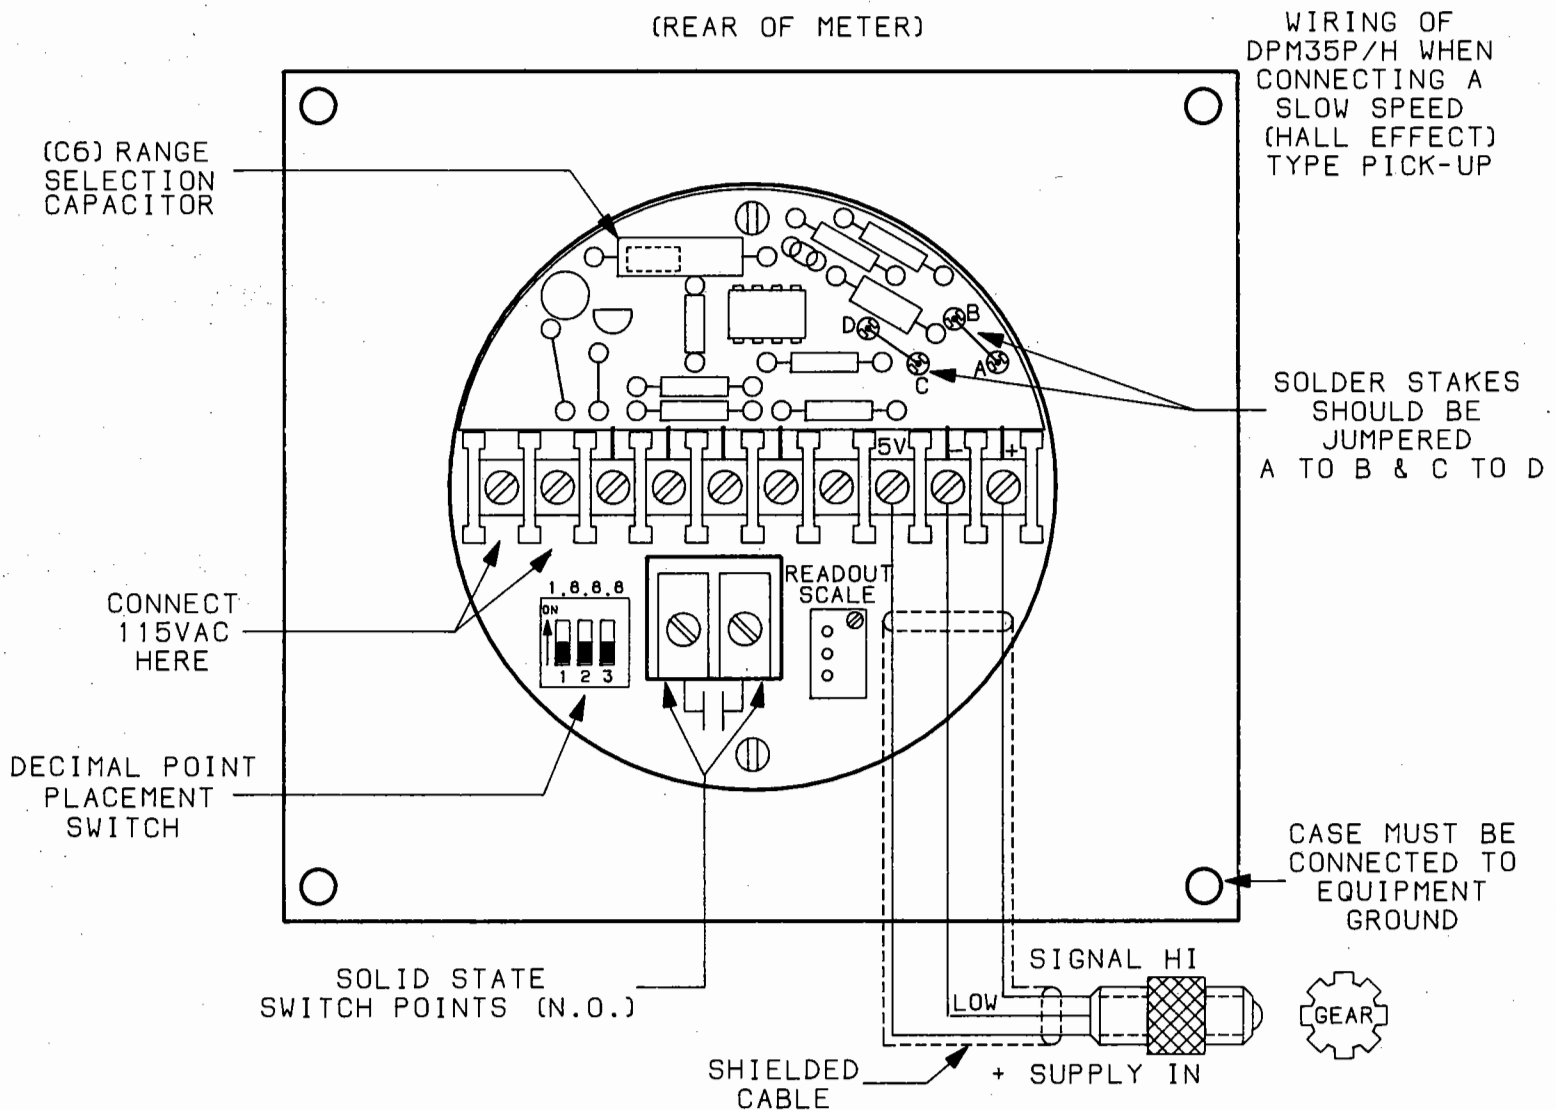

FIGURE 1
2.) Hall Effect Type Magnetic Pick-up (See Fig. 1) P/N RT-58426